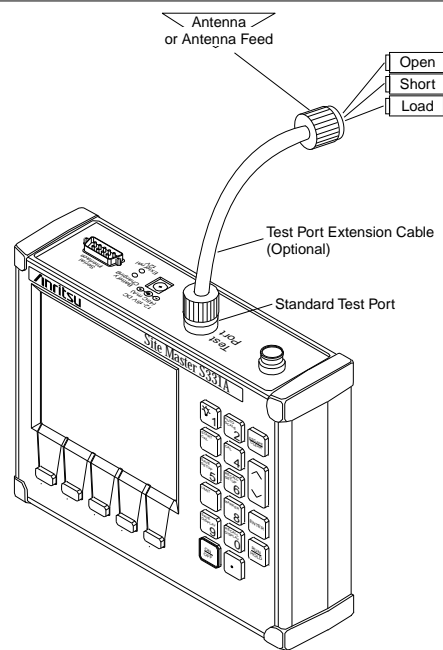

Figure 2-9. Measurement/Calibration Test Setup
“Connect LOAD, Press ENTER” instructions that appear in the message area. Connect the respective Open, Short, and Load component to the end of the Test Port Extension Cable (Figure 2-9) prior to pressing ENTER.
- Step 7.** Perform a measurement calibration, using the **START CAL** key. Select **CAL A** or **CAL B**. Follow the ensuing “Connect **OPEN**, Press **ENTER**,” “Connect **SHORT**, Press **ENTER**,” and “Connect **LOAD**, Press **ENTER**” instructions that appear in the message area. Connect the respective Open, Short, and Load component to the end of the Test Port Extension Cable (Figure 2-9, page 2-27) prior to pressing **ENTER**.